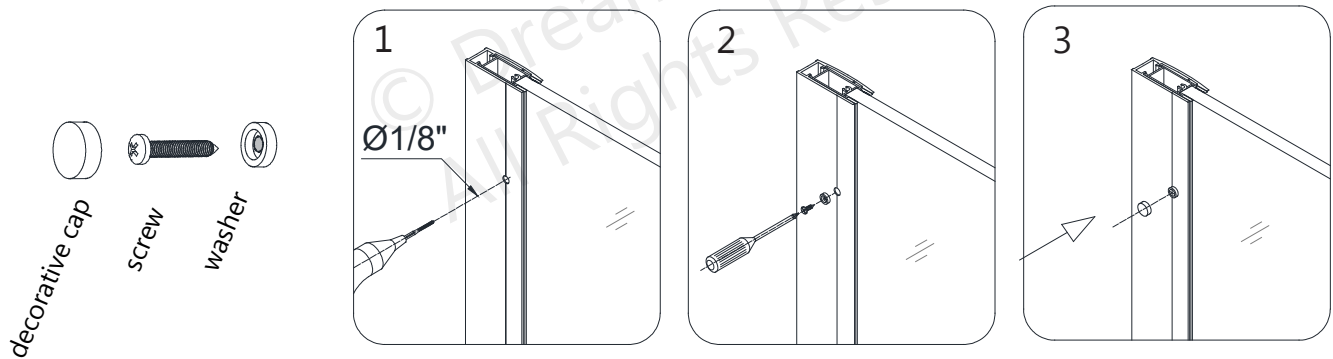

Fig 8
8. Recheck the alignment and spacing of the **Door Glass** and **Panel Glass (#11)** and test the operation of the Door. After final adjustments of the **Panel Glass (#11)** drill holes into the **Glass Profile (#10)** through the predrilled holes in the **Wall Profile (#09)** using an **Ø1/8"** drill bit. Use the **Pan Head Screws ST4.2×10 (#14)** and **Washers (#17)** to attach the **Wall Profile (#09)** to the **Glass Profile (#10)**. Cover the exposed screw heads with **Decorative Screw Cover (#17)**. (Fig 8)